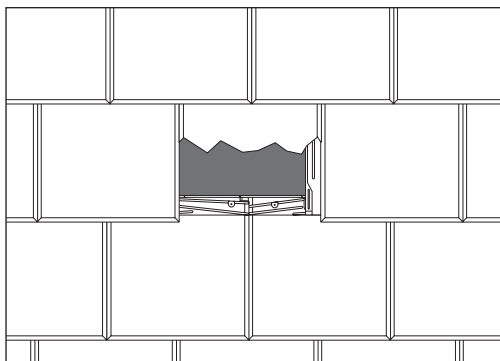

Fig 26 – Removal of lower part of slate
- This releases lower edge of damaged slate and allows it to be broken gently into smaller pieces, and removed, all except for head or upper portion of the slate (Fig 26).